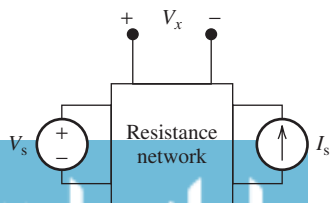

FIGURE P3.71 Circuit for Problem 3.71.
3.71 (H) When $V_s = 4$ V and $I_s = 2$ A, then $V_x = 8$ V; when $V_s = 7$ V and $I_s = 1$ A, then $V_x = 6$ V. Find the voltage V_x in Figure P3.71 using the superposition principle when $V_s = 2$ V and $I_s = 6$ A.